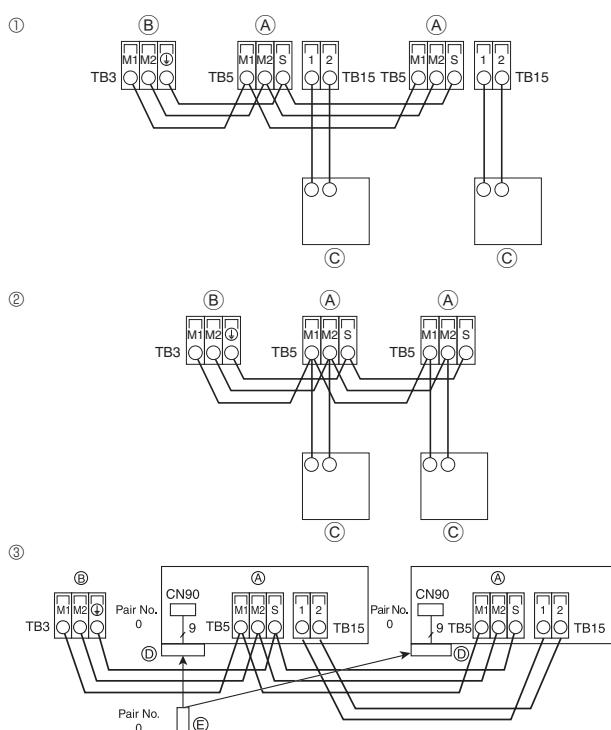

Fig. 6-3
6.4. Connecting remote controller, indoor and outdoor transmission cables (Fig. 6-3)
① MA Remote controller
② M-NET Remote controller
③ DC 24 to 30 V between M1 and M2 (M-NET remote controller)
④ Wireless remote controller (When installing wireless signal receiver)